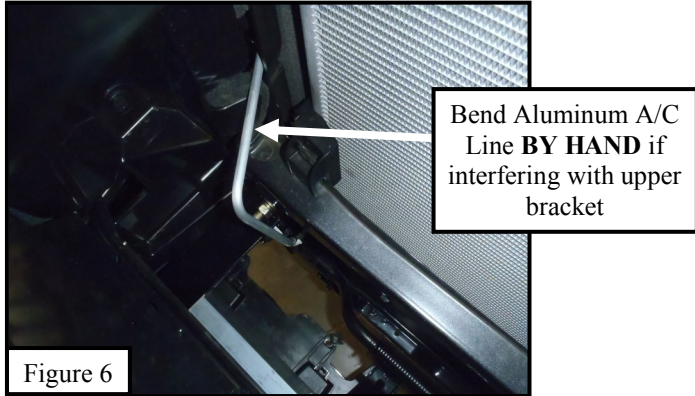
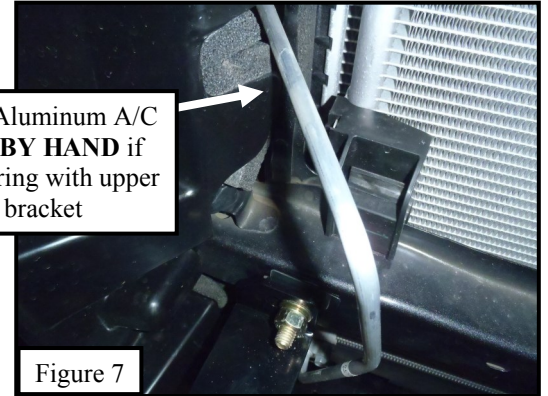

Figure 6
Figure 7
6. It may be necessary to bend the aluminum A/C line by hand so that it does not interfere with the upper bracket. See **Figures 6 and Figure 7.**
NOTE: Install bracket from underneath the vehicle. As seen in Figure 7.